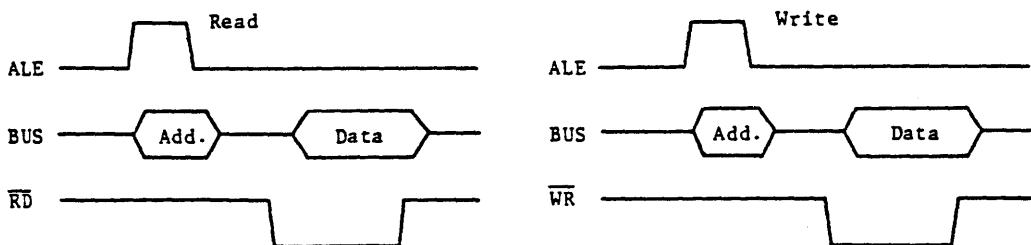

Fig. 6 Timing of Accessing External Data Memory
- Figure 6 illustrates the timing of accessing the external data memory during execution of external program.
(3) Interface with I/O Expander (TMP 8243P)